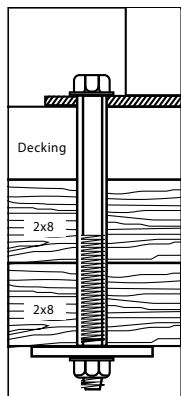
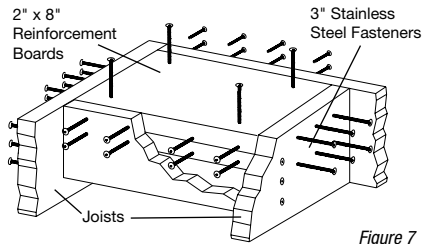

Figure 6
Figure 7
2. The thickness of the wood/composite deck and reinforcement boards underneath the deck should be a minimum of 4" (two treated and structurally sound 2" x 8" lumber under the deck board, Figure 6). Fasten the reinforcement boards with 3" stainless steel fasteners as shown (Figure 7).